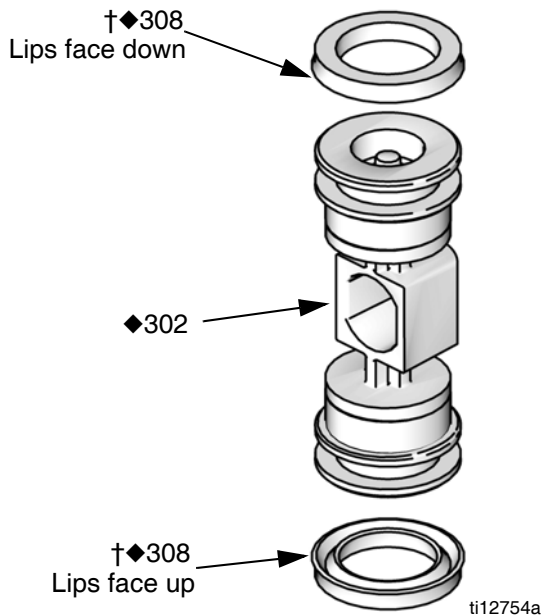

FIG. 16. Pneumatic Valve U-cup Installation
2. See FIG. 16. Lubricate the u-cups (308†♦) and install on the piston (302♦) with lips facing toward the center of the piston.